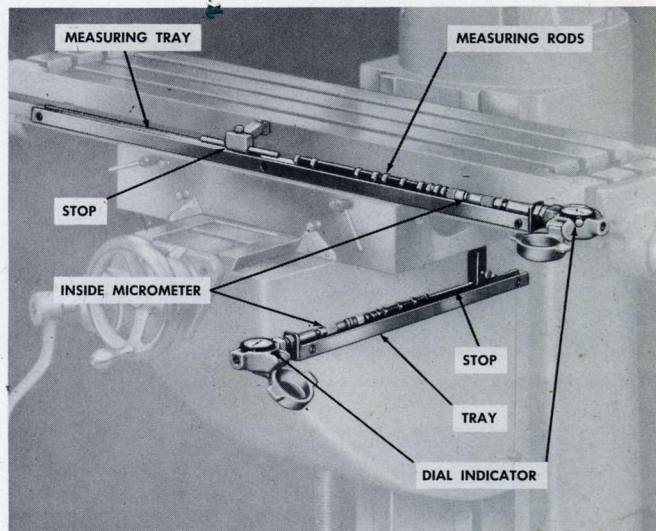
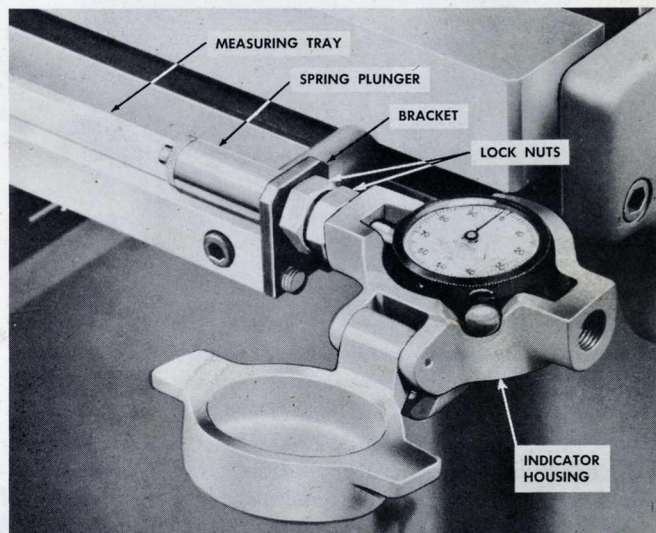

Fig. 31. Measuring trays on milling machine.
Fig. 32. Dial indicator assembly.
Measuring trays may be attached to the knee and table of the milling machine for positioning the table with extreme precision. See Fig. 31. A dial indicator is attached to the end of each tray as shown in Fig. 32. End measuring rods and inside micrometers are placed in the trays between the adjustable stops and the dial indicators. With this arrangement, it is possible to measure the cross and longitudinal movement of the table very accurately.
- E. Assemble dial indicators in housings, being careful to center indicator shaft in threaded hole. Use $\frac{1}{4}'' \times \frac{3}{4}''$ fillister head screw and washer to hold indicator in housing. See illustration, Fig. 32.
- F. Screw spring plunger into bracket (Fig. 32).